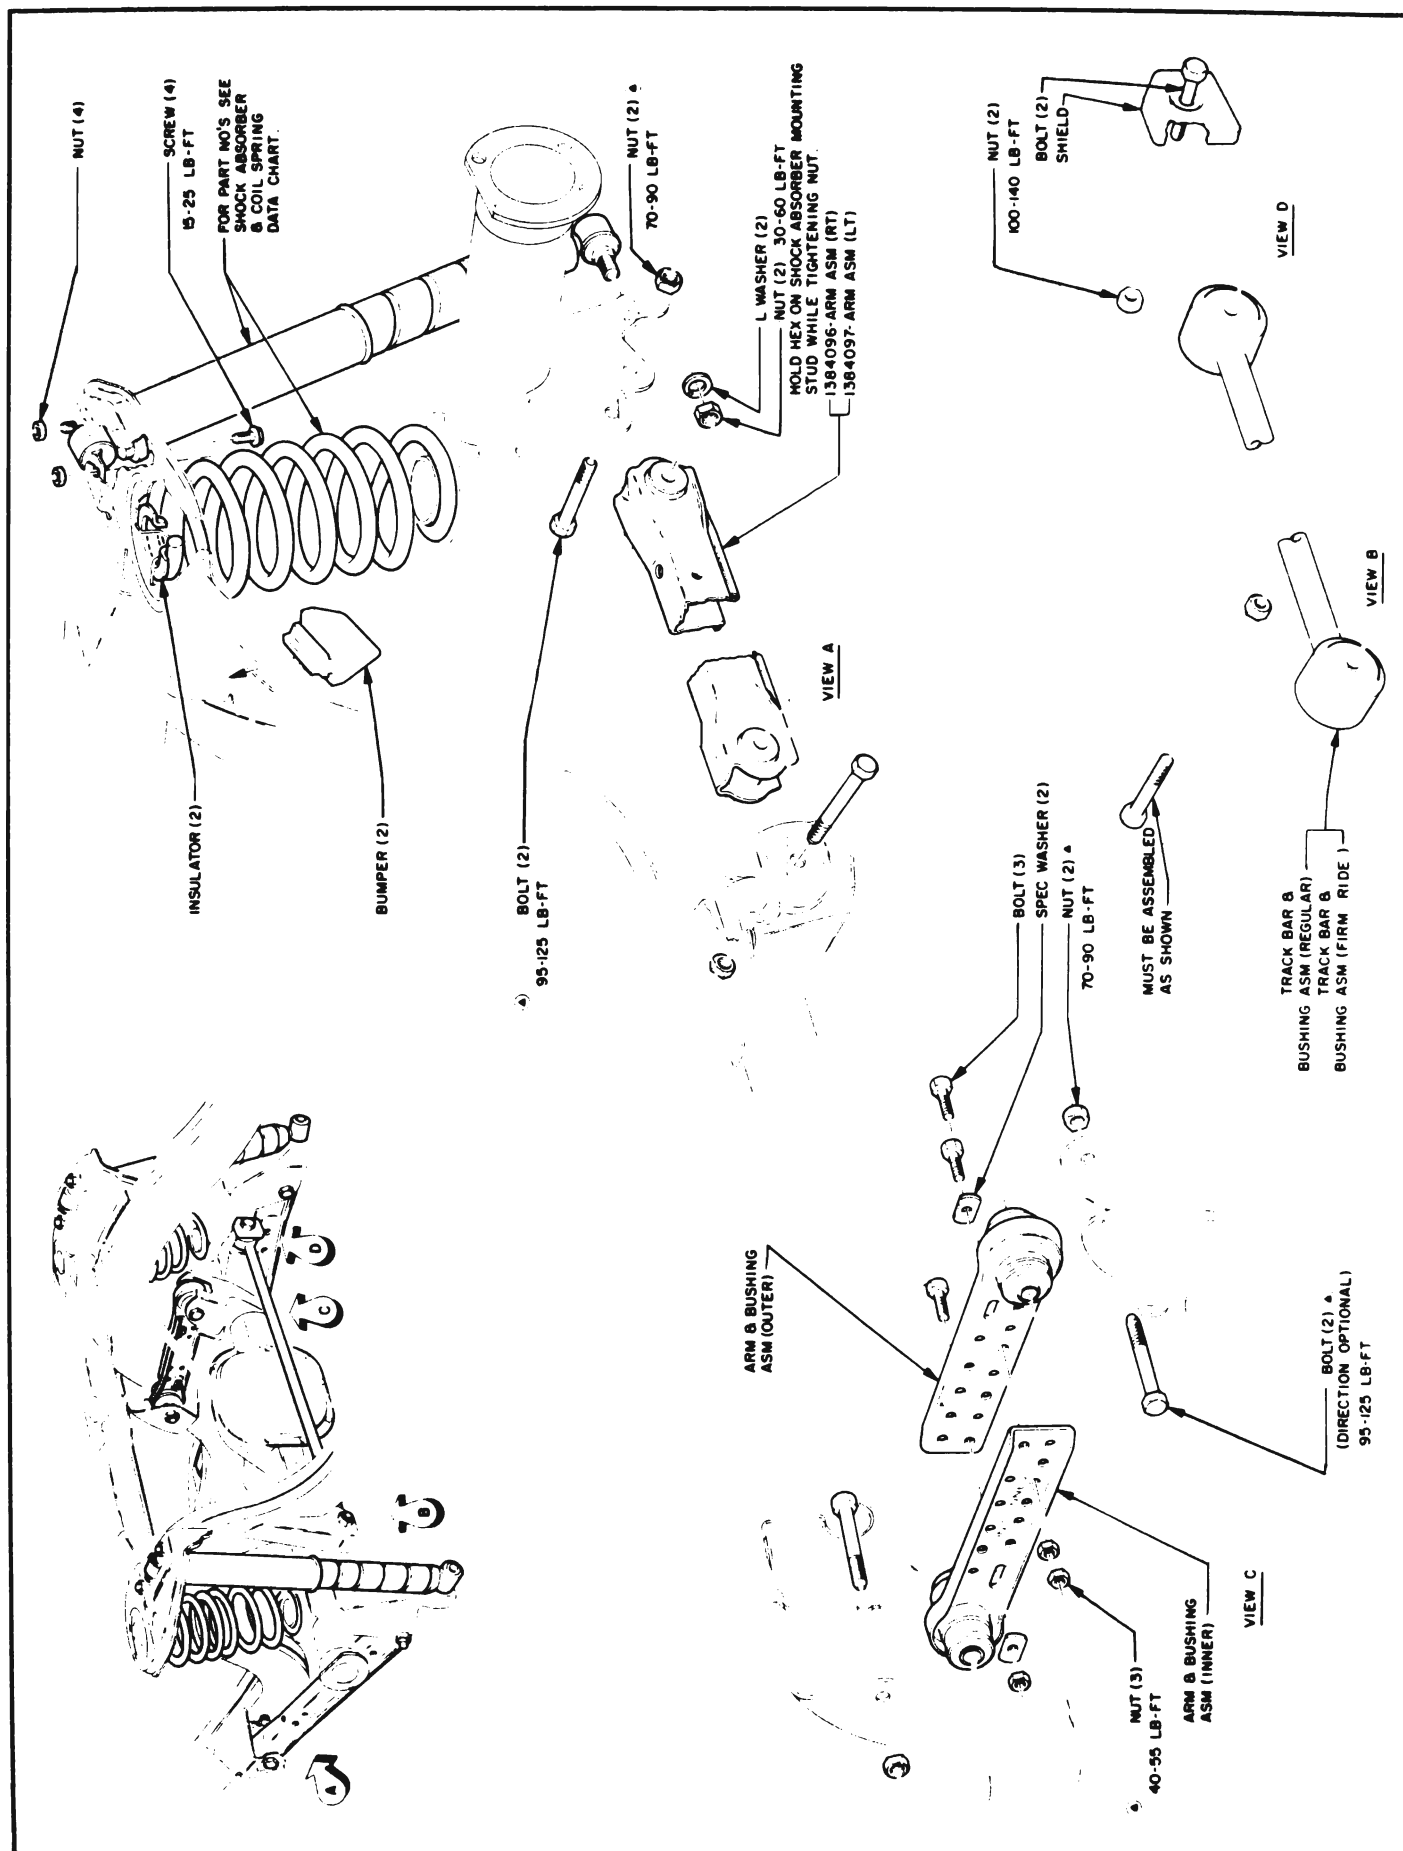

Figure 40-4 - 49000 Rear Suspension
The rear wheels are not independently sprung, being incorporated into the rear axle assembly. The rear wheels are held in proper alignment with each other by the rigid construction of the axle housing and by a pair of lower control arms. With the use of an open type drive line, driving and braking forces are taken by these control arms. The control arms are connected to the frame at their front ends and to a bracket welded to the axle tube at the opposite ends. Both mounting joints are pivoted through rubber bushings. See Figure 40-4.
4. Track bar can now be removed from brackets. See Figure 40-4.